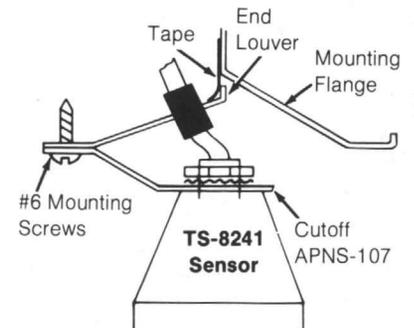

Figure 5
- c. Fig. 5. Locate hole center on an end louver about 1/2" from the junction of the louver and the mounting flange.
- c. Fig. 5. Drill one hole on end louver.
- Fig. 5. Cut off one side of APNS-107 as shown.
- Fig. 5. Cover the crack between the end louver and mounting flange at least 12" on each side of the sensor. A 24" length of 3/4" tape stuck to mounting flange can be used.